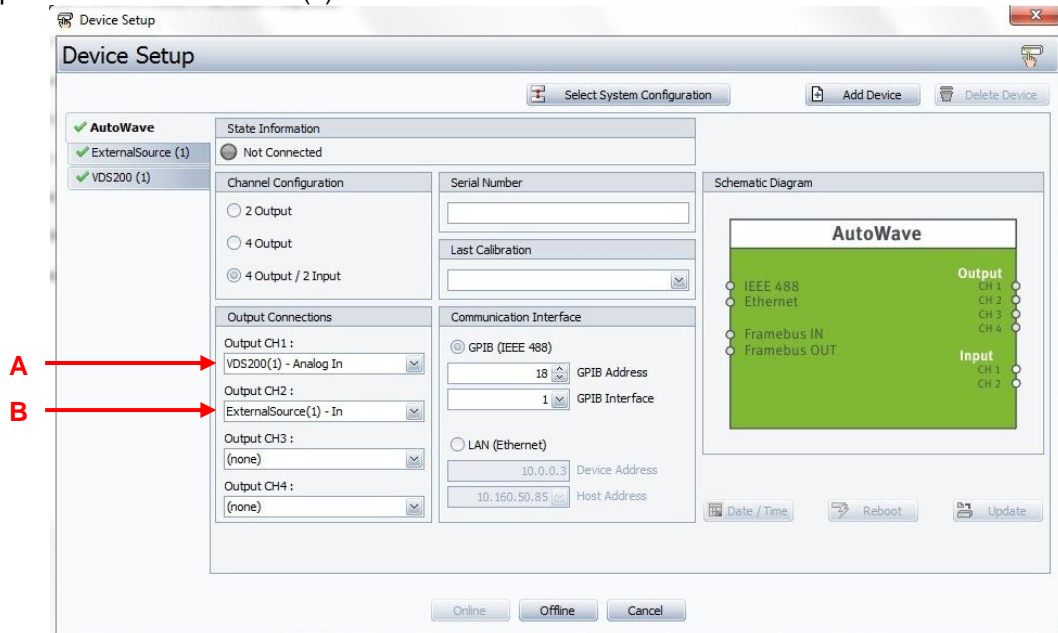

Figure 2.3
Step1: Configuration Autowave (see figure 2.3 below)